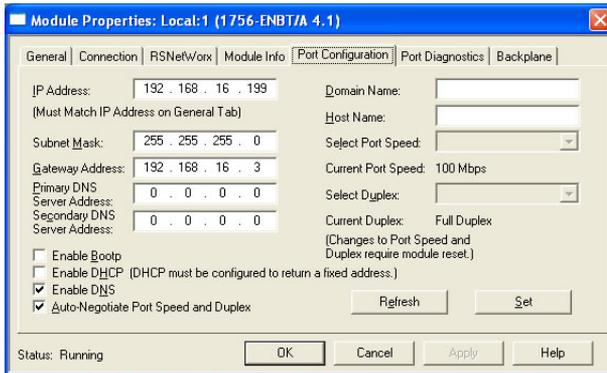

Figure 82: Confirming the Module's Properties
- 11) Confirm that the IP Address, Subnet Mask and Gateway Address fields are configured correctly. The IP Address must match the IP Address entered when the new module was first created. Refer to Figure 82.